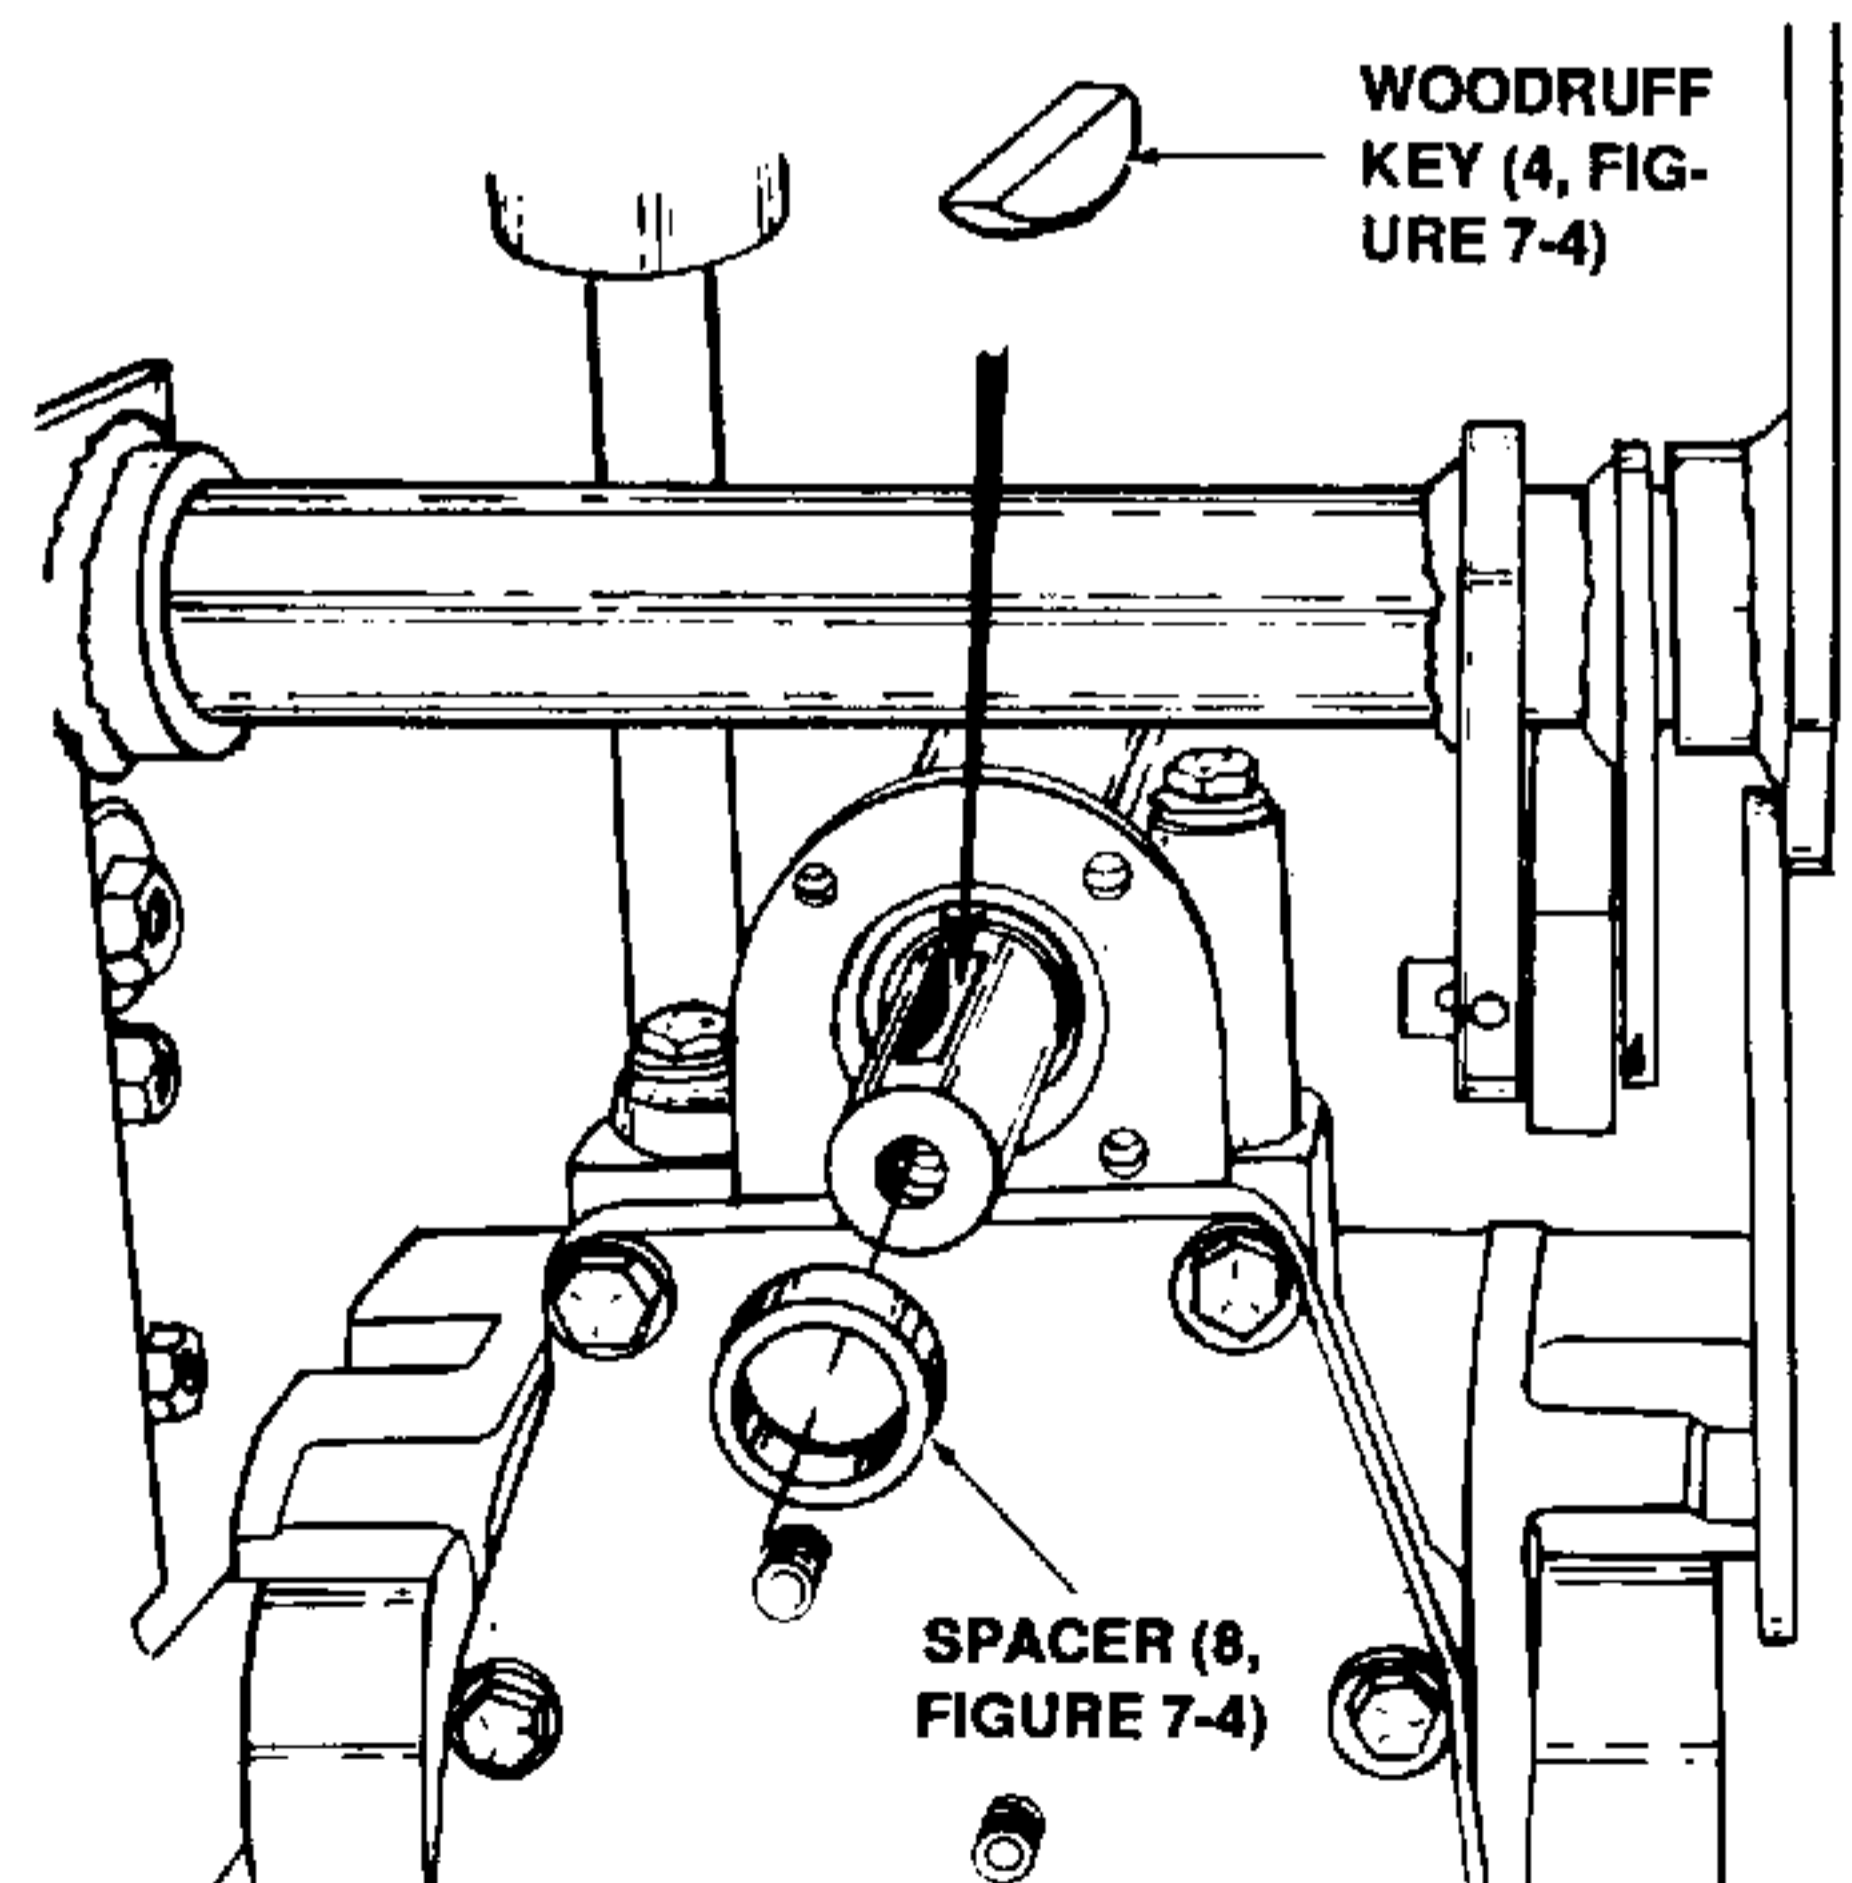

Figure 7-18. Installing the Clutch Field Assembly.
- a. Grease rear PTO clutch shaft with 251H EP grease and slide spacer (8, Figure 7-4) onto shaft. Refer to Figure 7-18.